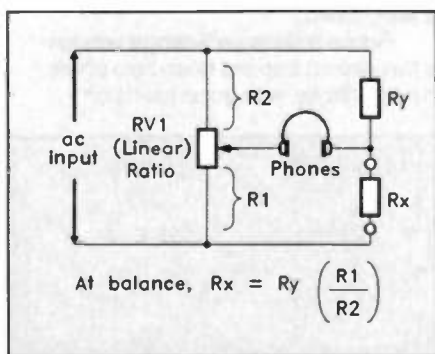
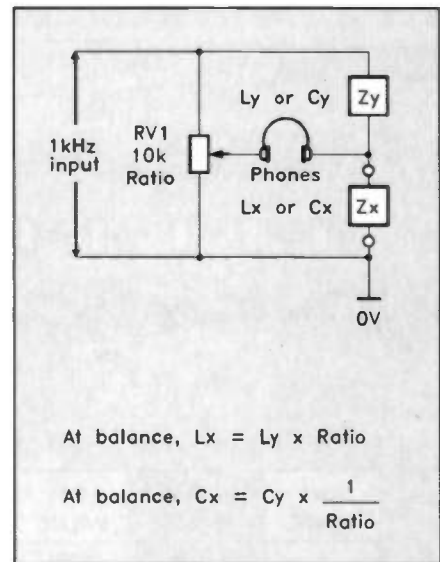

Figure 7. Basic AC-energised Wheatstone bridge with variable ratio-arm balancing and earphone-type detection.
Figure 9. A Wheatstone bridge can be used to balance both capacitive and inductive reactances.
A Wheatstone bridge can be energised from either an AC or DC source, without upsetting its balance truths. Figure 7 shows an AC-energised version in which the balance condition is obtained via an infinitely-variable pair of ratio arms made up by RV1. In this case, balance-sensitivity is so high that balance detection can be made via a pair of earphones.
An AC-energised Wheatstone bridge can measure both reactance and resistance, and can thus also measure capacitance (C) and inductance (L). Figure 9 shows how the circuit in Figure 7 can be used to measure C and L values. This can be achieved by replacing  $R_x$  and  $R_y$  with reactances of equivalent types, provided that  $C_x$  or  $L_x$  are reasonably pure and have impedances (at 1kHz) which are greater than approximately  $1\Omega$ , and less than  $10M\Omega$ . The problems with trying to measure inductance using this circuit are that accurate inductors (for use in the  $Z_y$  position) are hard to get, and that inductive impedances are only  $6.28\Omega$  per mH at 1kHz. The only problem in
In Part 1 of the series, two examples of operating systems were discussed: the BBC Micro operating system, based on the 6502 MPU (see Figures 7 and 8, Part 1); and the Einstein micro which uses a standard CP/M operating system, running on a Z80 MPU (Figures 9 and 10, Part 1).